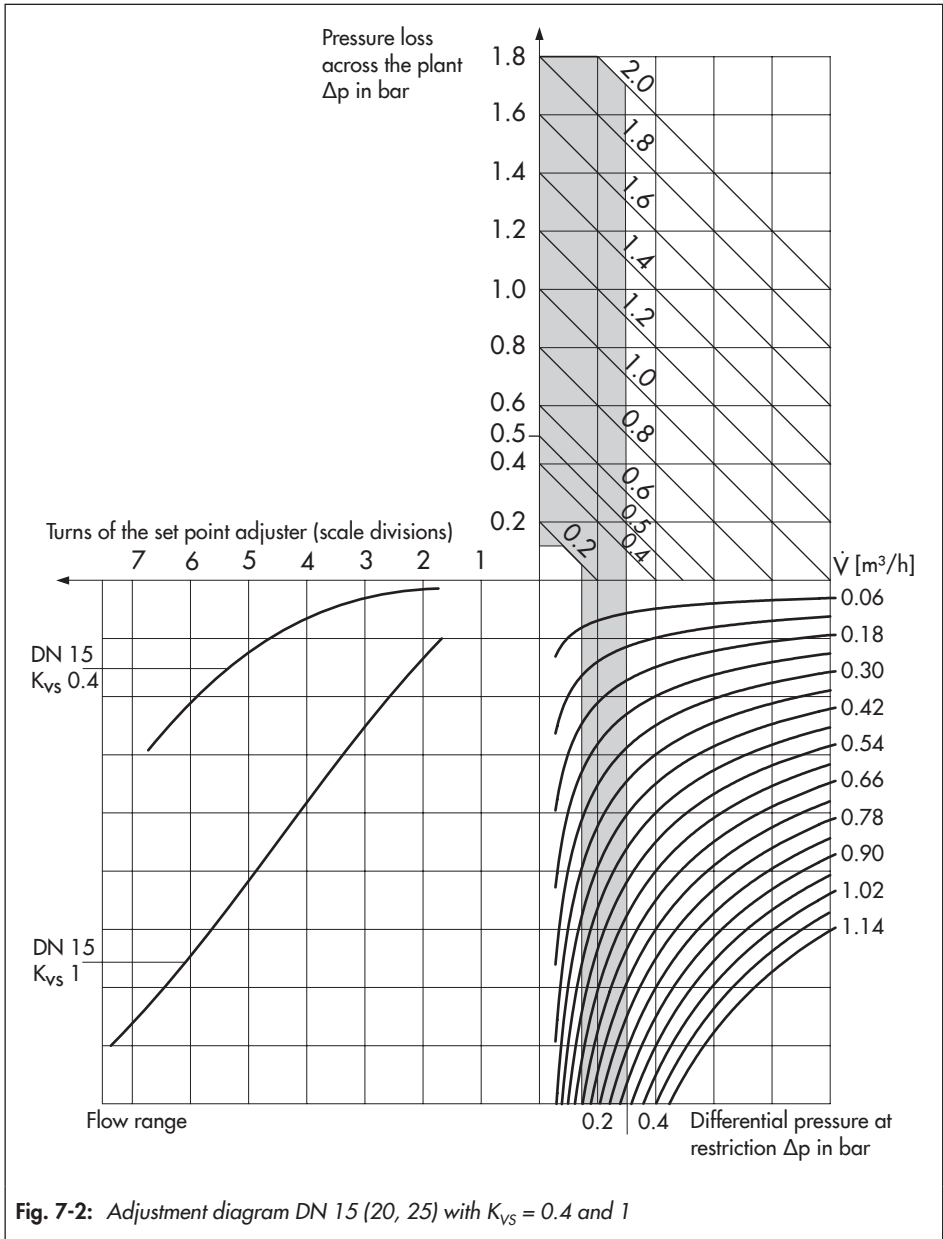
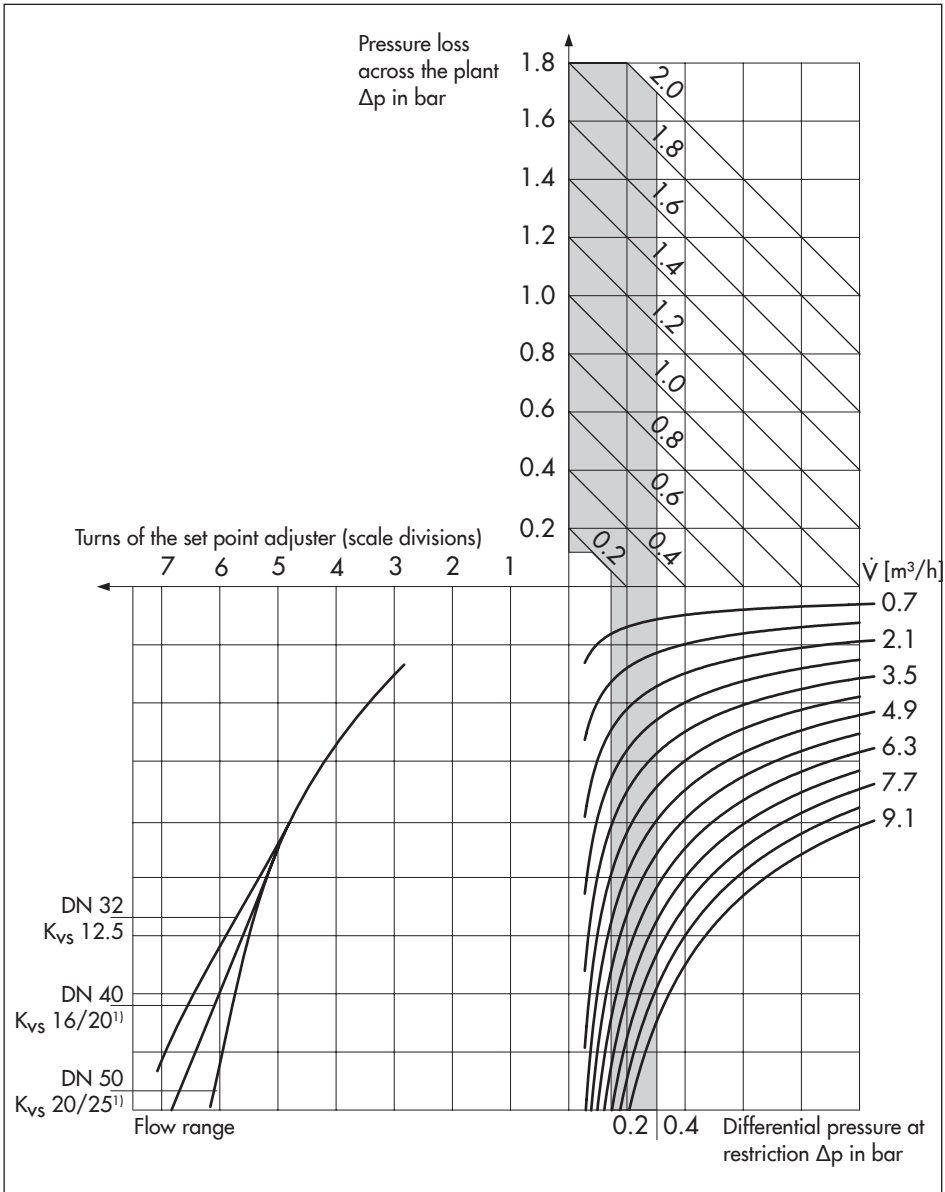

Fig. 7-2: Adjustment diagram DN 15 (20, 25) with  $K_{VS} = 0.4$  and 1
Fig. 7-4: Adjustment diagram DN 32 to 50 with  $K_{VS} = 12.5$  to 25
- The flow rate can be adjusted with the aid of the adjustment diagrams for water (Fig. 7-2 to Fig. 7-4). Calibration with a heat meter is essential afterwards.